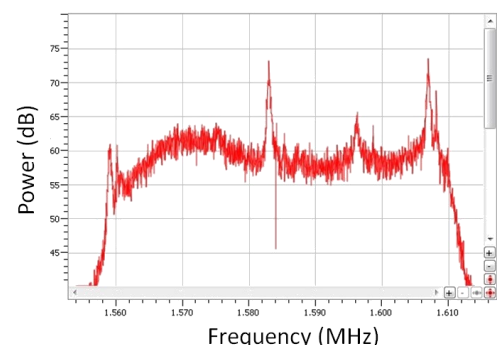

Figure 1: GoPro Hero 2 camera pick-up monitored by an AsteRx4 receiver
**Figure 1** shows what happened to the GPS L1-band spectrum when a GoPro camera was installed on a quadcopter close to the GNSS antenna without sufficient shielding. The three peaks are exactly 24 MHz apart pointing to their being harmonics of a 24 MHz signal: the typical frequency for a MMC/SD logging interface.